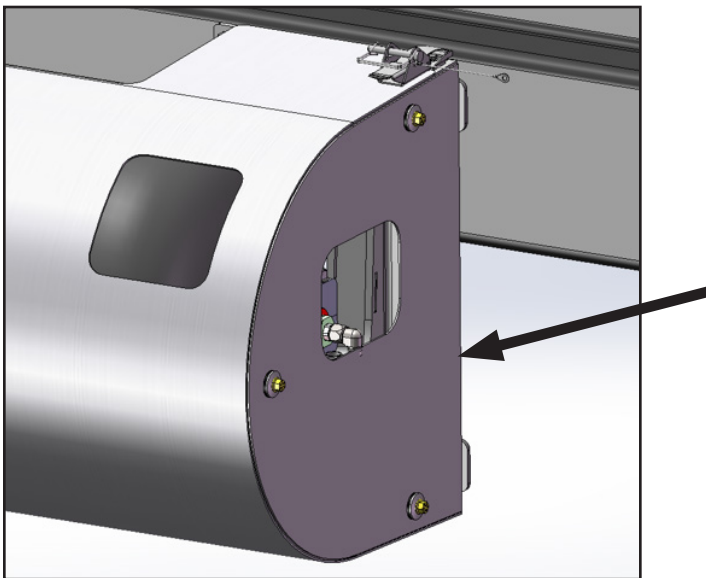

Figure 1
4. Unbolt cover to access the valve on the CNG tank. Keep the hardware and cover for future reinstallation (Figure 1).